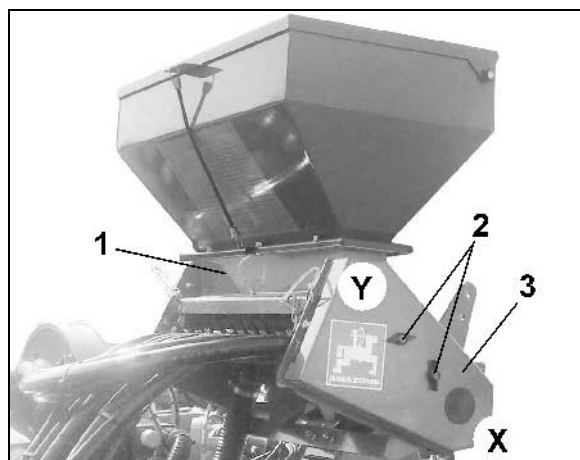

Fig. 28
1. Slacken thumb nut (Fig. 28/1) and remove chain guard (Fig. 28/2).